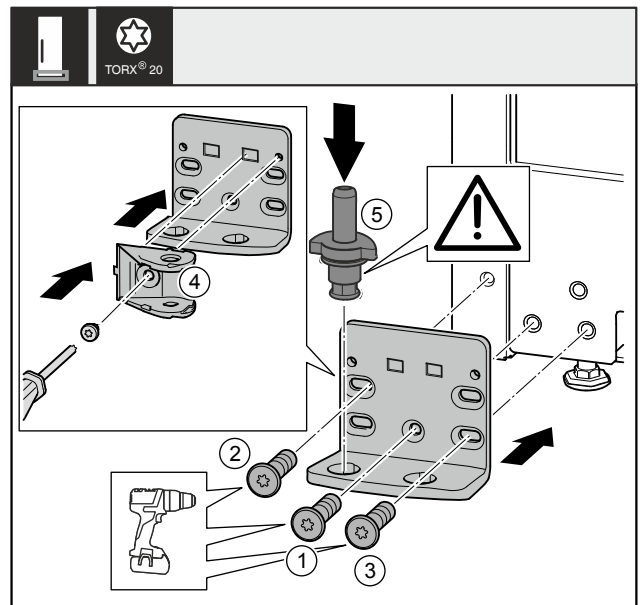

Fig. 29
- ▶ Attach the swap bearing block onto the other side and screw it on using a screwdriver. Start with the screw Fig. 29 (1) at the bottom center.
- ▶ Tighten screw Fig. 29 (2) and screw Fig. 29 (3).
- ▶ Turn the closing damper connection Fig. 29 (4) by 180°. On the other side of the swap bearing block, screw it on with the screwdriver.
- ▶ Insert the bearing pin Fig. 29 (5) completely. In the process, make sure that the latching cam shows towards the rear.